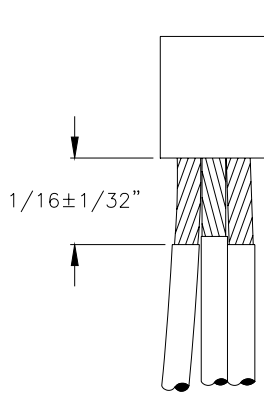

Figure 1
1. Strip the wires and install crimp type connector or solder wires together. Connector should be installed so that $1/6 \pm 1/32$ of conductor is exposed between the connector and the wire insulation, as shown in Figure 1.